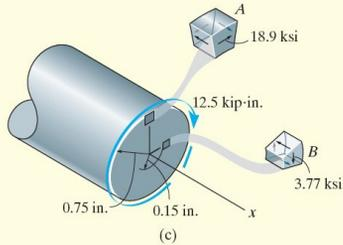

Fig. 5-11
The internal torque at section  $a-a$  will be determined from the free-body diagram of the left segment, Fig. 5-11*b*. We have
**NOTE:** The directions of these stresses on each element at  $A$  and  $B$ , Fig. 5-11*c*, are established from the direction of the resultant internal torque  $\mathbf{T}$ , shown in Fig. 5-11*b*. Note carefully how the shear stress acts on the planes of each of these elements.